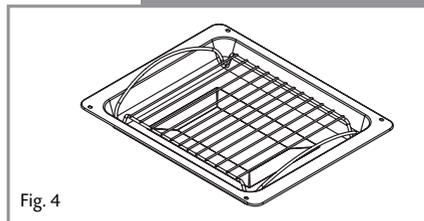

Fig. 4
1. Side racks (E on fig. 4)
2. Drip tray (figure 4)